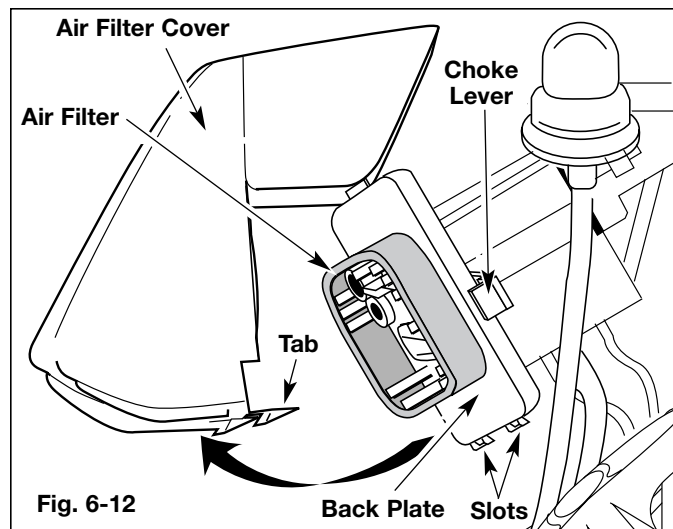

Fig. 6-12
1. Remove the air filter cover by pulling up the two tabs on the bottom back of the cover, then pull out and up (Fig. 6-12).
2. Remove the air filter (Fig. 6-12).
7. Reinstall the air filter cover by positioning the notch on top of the air filter cover onto the tab at the top of the back plate (Fig. 6-12).
8. Using two fingers on either side of the air filter cover and back plate, squeeze together until the cover snaps into place (Fig. 6-12).